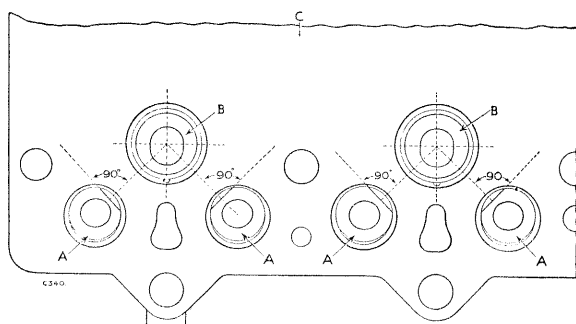

Fig. A-84—Correct position of push-rod tubes in relation to hot plugs
2. If the push-rod tubes were removed, new tubes complete with new sealing rings, smeared with Silicone M.S.4 Compound, should be pulled into position, using tool Part No. 274402. Ensure that the chamfers on tube and in cylinder head are in full contact and that the "flat" of tube is at right angles to a line drawn between the centre of push-rod tube and centre of hot plug, as illustrated by Fig. A-84.